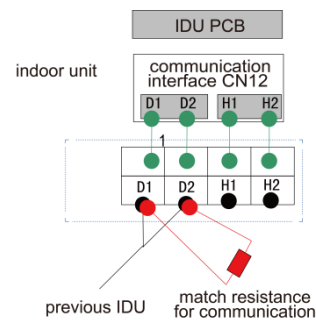

Fig 5.3.2
- (4) Secure the communication line with the wire clamp on the electric box.
- (5) In order to ensure the reliability of communication between IDU and ODU and the communication among each IDU, add a matched resistance(supplied in a package before ex-factory) on the wiring board of the last indoor unit in a series connection. The matched resistance should be connected in parallel between terminal screw D1 and D2, as shown in Fig.5.3.2.